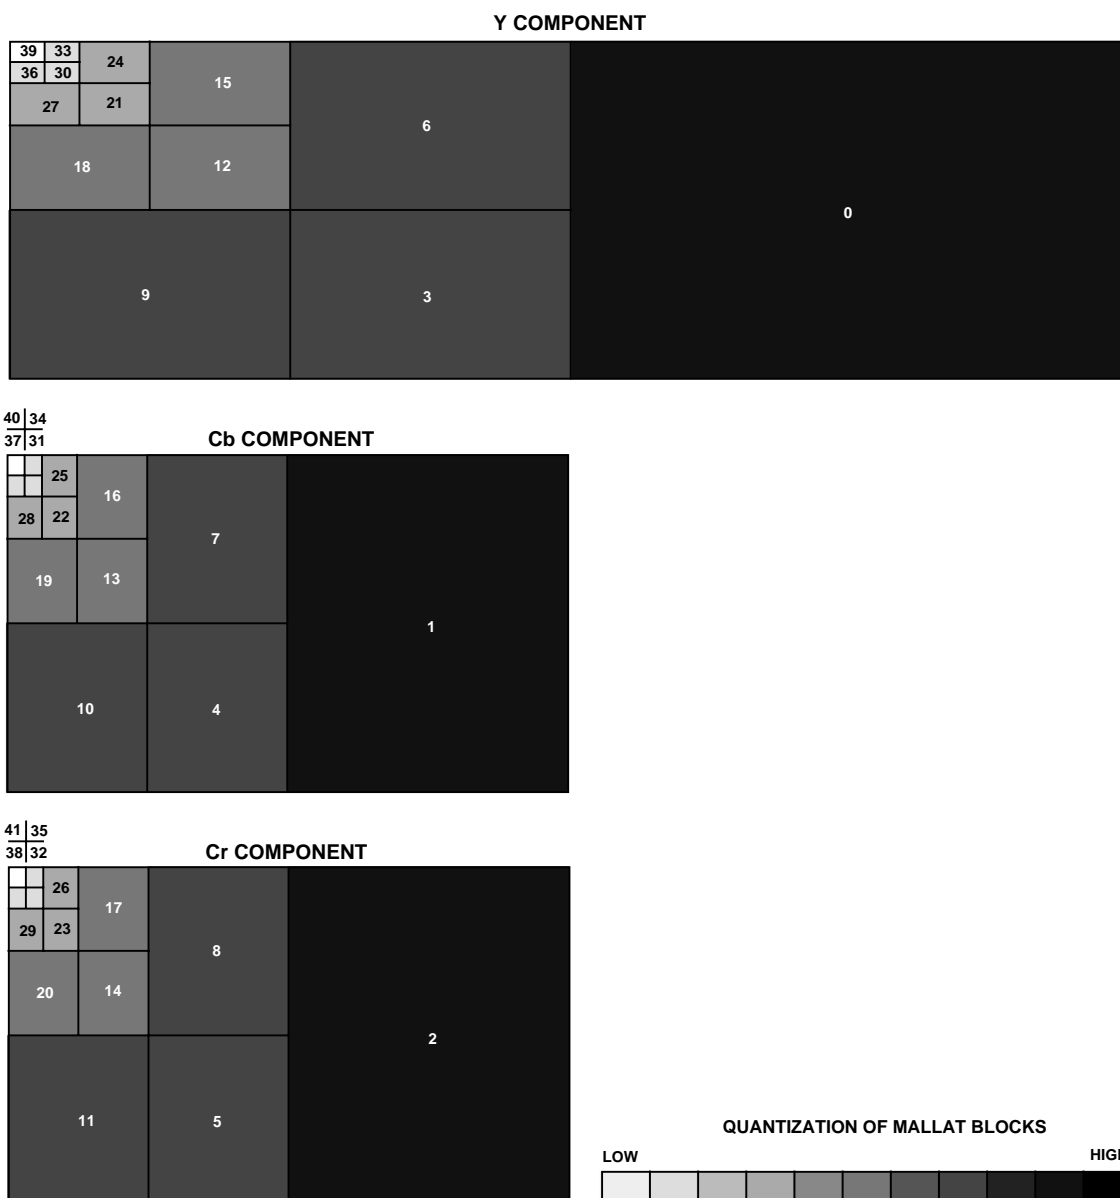

Figure 8. Typical Quantization of Mallat Data Blocks (Graphed)
Figure 8 shows how a typical quantization pattern applies over Mallat block data. The high frequency blocks receive much larger quantization (appear darker) than the low frequency blocks (appear lighter). Looking at this figure, one sees some key point concerning quantization: (1) quantization relates directly to frequency in Mallat block data and (2) levels of quantization range widely from high to low frequency block. (Note that the fill is based on a log formula.) The relation between actual ADV601 bin width factors and the Mallat block fill pattern in Figure 8 appears in Table II.